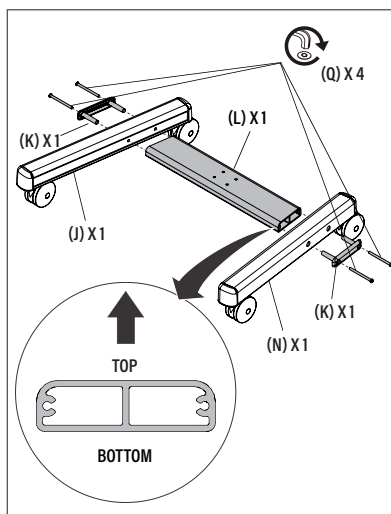

Figure 1
Assemble the right leg assembly (I) and left leg assembly (N) to the crossbar (L) using two 5/16-18 x 4-1/4" screws (Q) through one crossbar end cap (K) per leg. (See Figure 1)